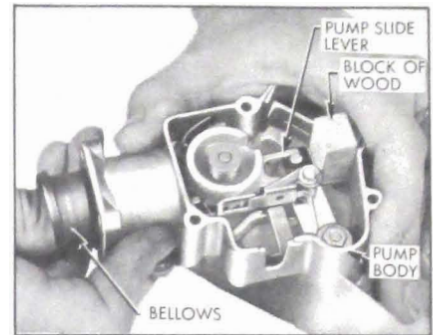

Figure 10-131—Bellows Removal
3. When plunger is all the way in on the pump stroke place a block of wood between the pump slide lever and pump body to prevent slide lever from being pushed back in next step. See Figure 10-131.